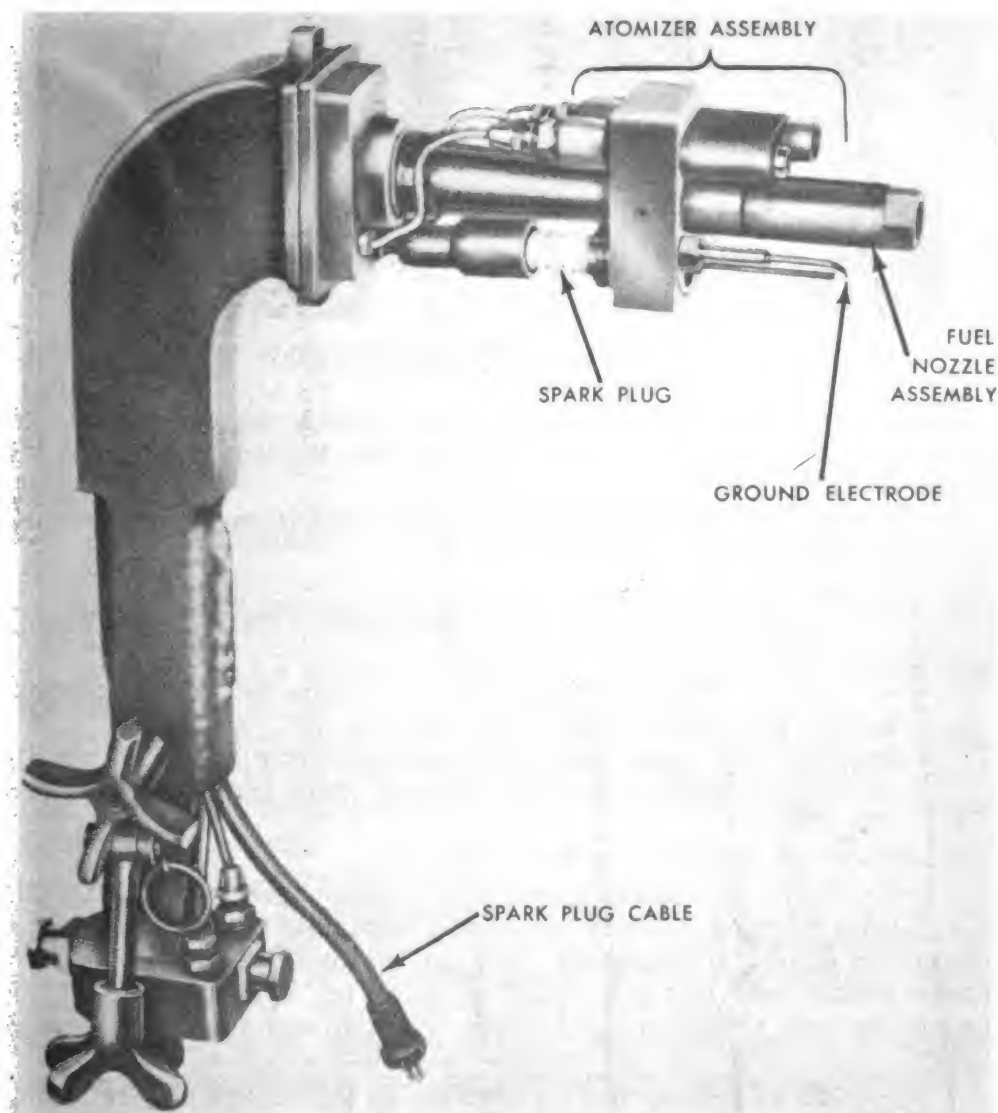
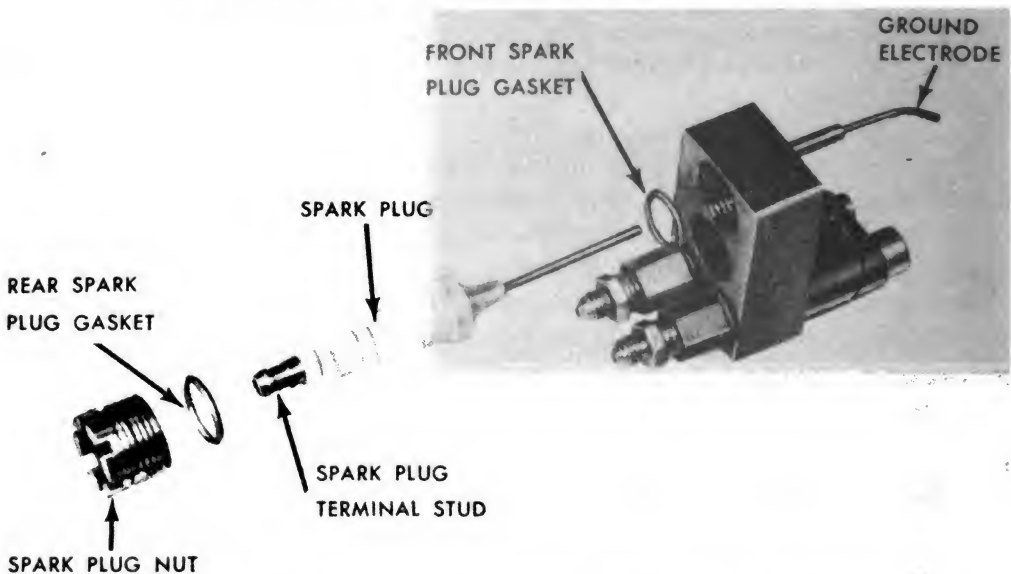

Fig. 64. Barrel assembly with flame shield removed.
Fig. 74. Exploded view showing spark plug, spark plug nut, and ground electrode.
a. General. The fuel nozzle assembly (fig. 64) consists of the fuel nozzle body and the fuel nozzle. The fuel nozzle body is a stainless
a. Components. The atomizer assembly, which consists of the atomizer mounting plate, atomizer body, and the air and gasoline nozzle assemblies, is mounted on the fuel nozzle assembly (fig. 64).
(1) Atomizer mounting plate. The atomizer mounting plate is a stainless steel unit which supports the atomizer, nozzle assemblies, spark plug, and the electrode. In addition, it serves to provide support for the flame shield.
(2) Atomizer body. The atomizer body is a bronze unit which serves to spray air and gasoline from the air and gasoline nozzle assemblies. It is tapped to receive the air and gasoline nozzle assem-
a. Components. These consist of the spark plug, ground electrode, and spark plug cable (fig. 64). The spark plug is secured to the atomizer mounting plate by the spark plug nut (fig. 74). The electrode is made of tungsten steel and is mounted in a stainless steel socket which in turn is screwed into the mounting plate (fig. 74).
b. Removal. (1) Spark plug. To remove the spark plug: